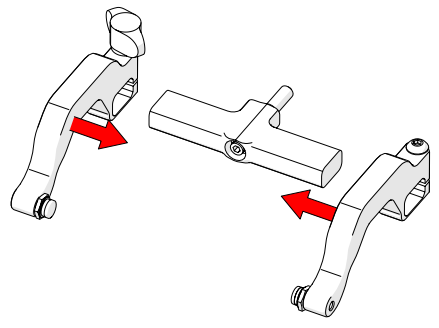

Fig. 59 - Remove outer arm
6. Place the probe holder arms on the yoke and tighten the arm clamp screw and probe holder adjustment knob (Fig. 59).